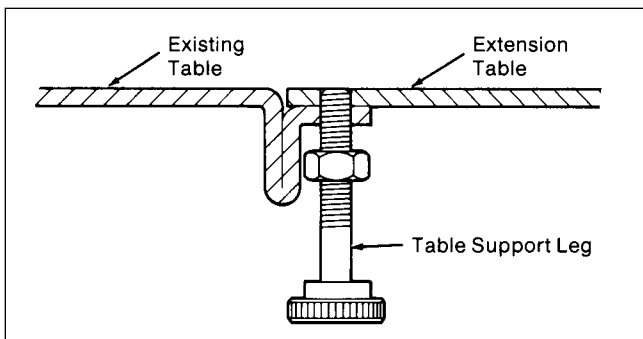

Fig. 2a
2. Thread a 1/4 - 20 nut onto each of the table support legs, down to where approximately 3/8" of thread is exposed beyond the nut (figure 2a).